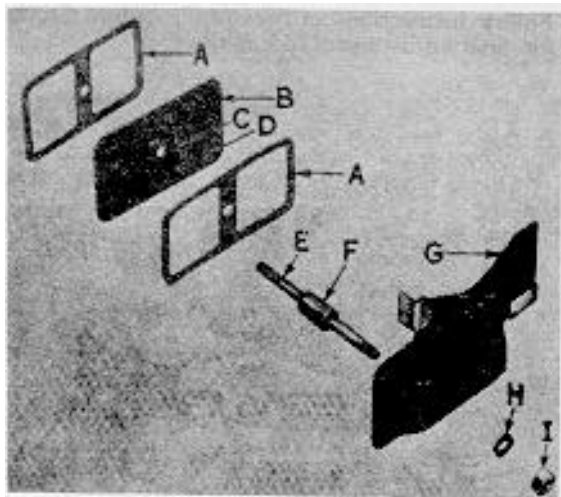

Figure 30
- b. The correct order for assembly of breather is as follows: (Fig. 30) A-Gasket, B-Plate and Reed, (D-small drilled hole must be at bottom of plate), A-Gasket, F-Stud, F-Rubber spacer. C-Cover, H-Lock washer and I-Nut.